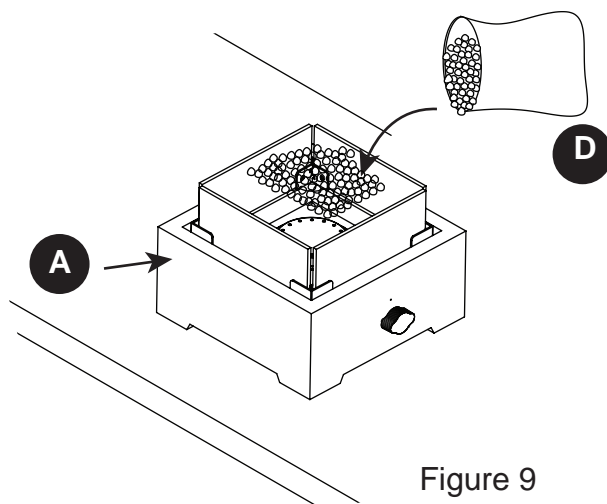

Figure 9
8. Place the glass beads (D) into the fire pit body (A). Approx. 3.08 lbs of glass beads are required (see Figure 9).